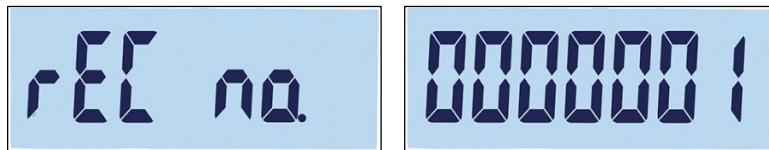

Figure 3-45: Record Number Label and Record Number Setting Screens
2. **rEC no.** appears briefly, and then the record number editing screen (Figure 3-45). The terminal can save up to 10 records. By default, the system offers the next available number.